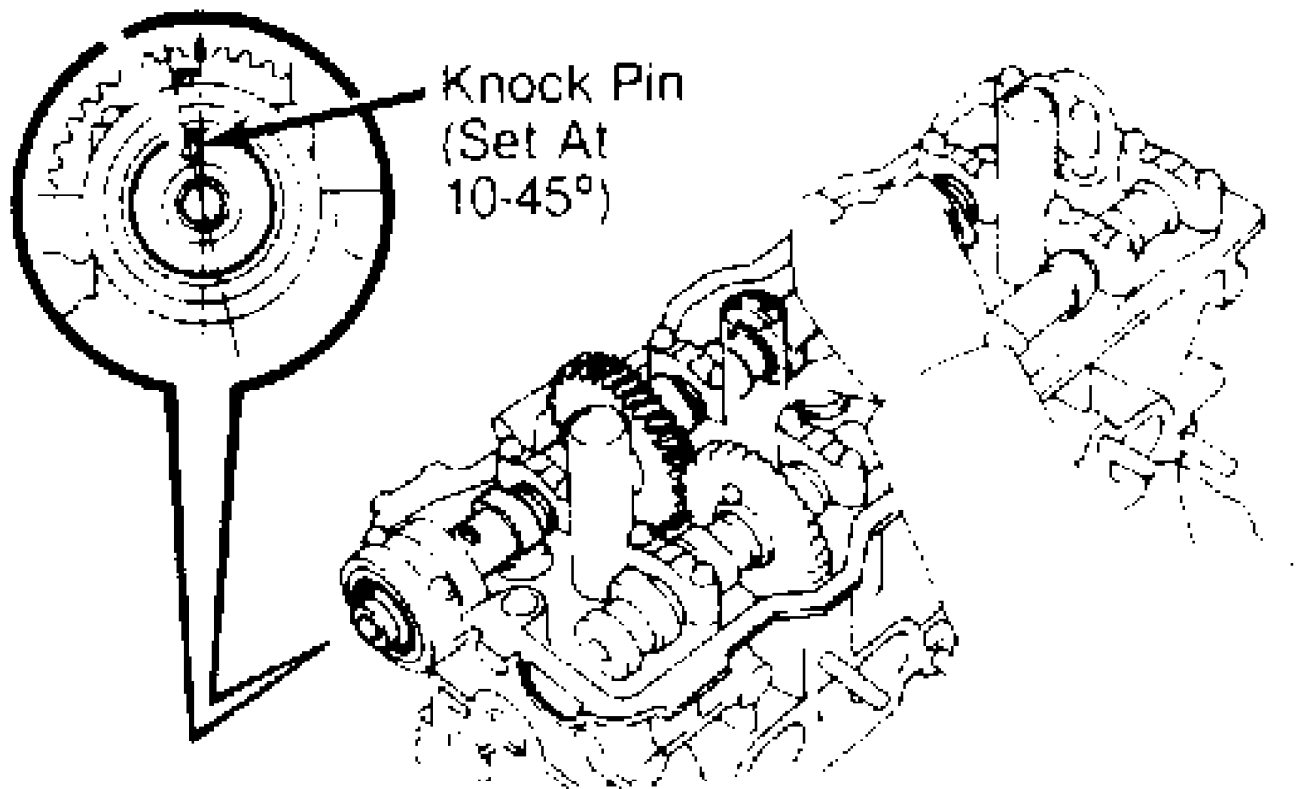

Fig. 11: Setting Camshaft Knock Pin
1) Remove cylinder head cover and timing belts. Set knock pin of intake camshaft at 10-45 degrees BTDC of camshaft angle. See Fig. 11. This position will allow the camshaft to be lifted evenly by the valve lifters pushing the No. 2 and No. 4 cylinder cam lobes.